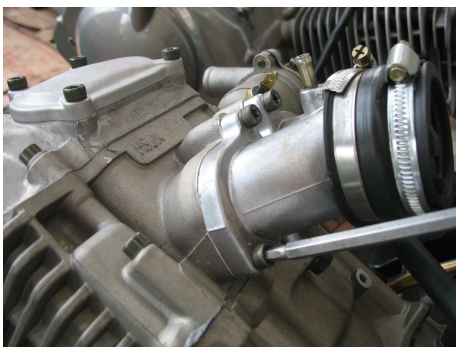

Figure 2-26-1
① Unplug the intake pipe and spark plug. ( Figure 2-26-1, 2-26-2)